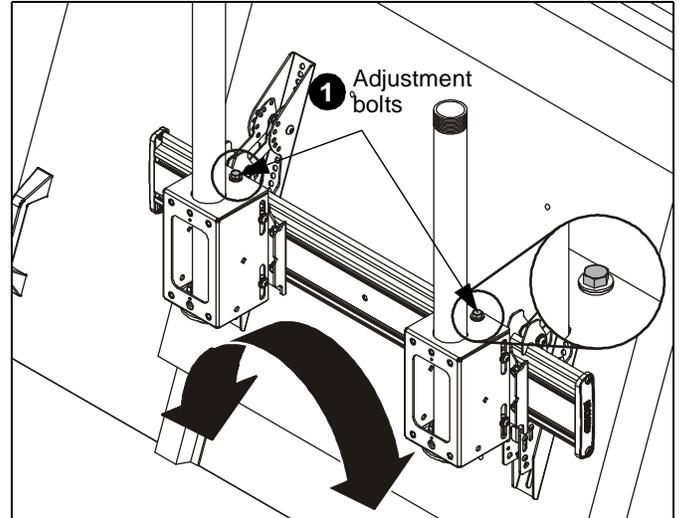

Figure 13
1. Turn the adjustment bolt in the direction necessary to level or adjust height. (See Figure 13)